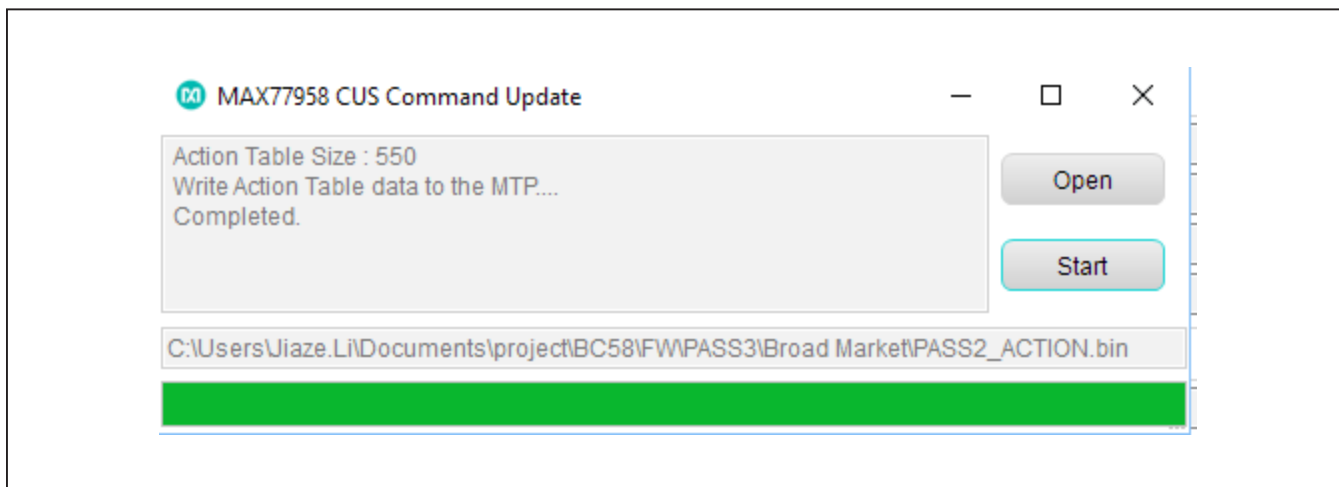

Figure 10. Customization Script Update Process Complete
- 5) Figure 10 shows the completion of the customization script update process.